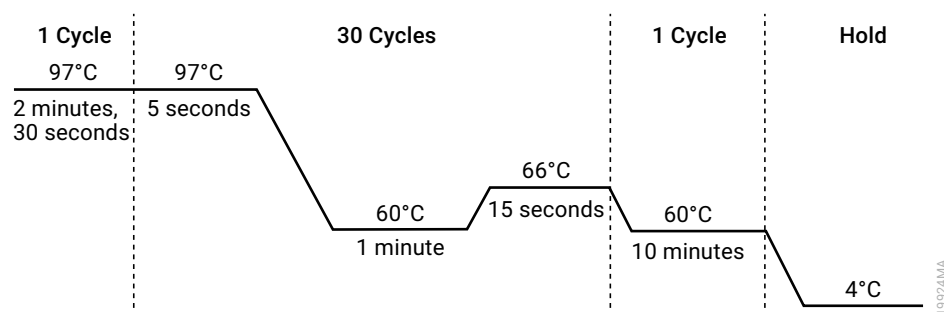

Figure 29. Thermal cycling protocol for the ProFlex® PCR System.
2. Select and run the protocol provided below and in Figure 29. The total cycling time is approximately 70 minutes.